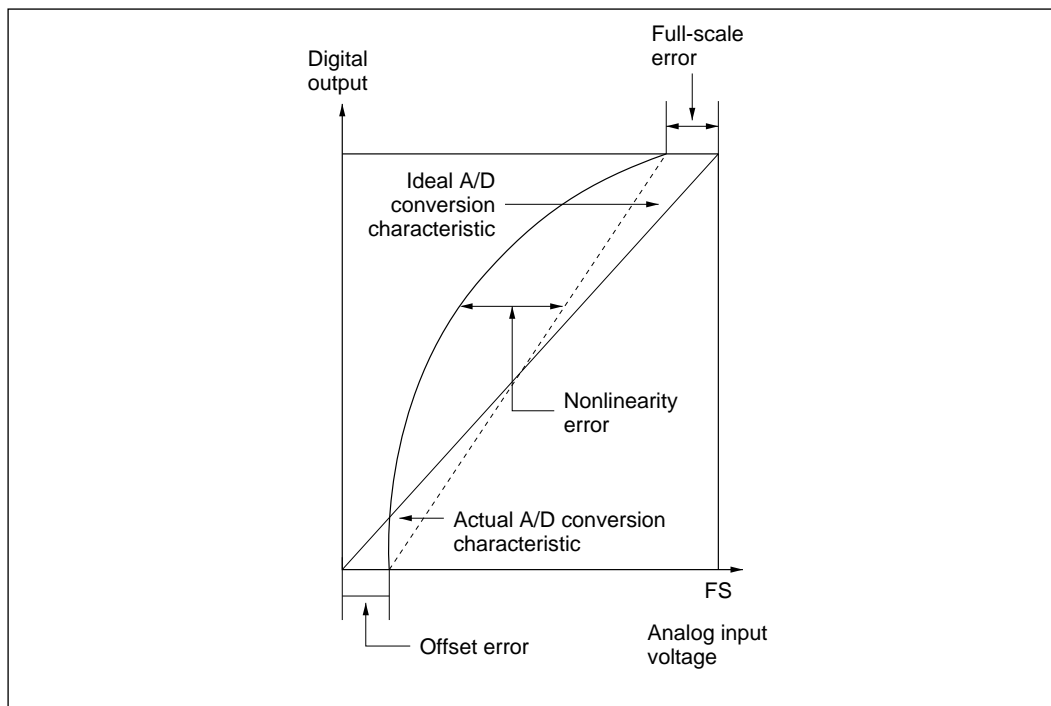

Figure 15-10 A/D Converter Accuracy Definitions (2)
- Offset error:Deviation from ideal A/D conversion characteristic of analog input voltage required to raise digital output from minimum voltage value 000000000 to 000000001 (figure 15-10)
- Full-scale error:Deviation from ideal A/D conversion characteristic of analog input voltage required to raise digital output from 111111110 to 111111111 (figure 15-10)